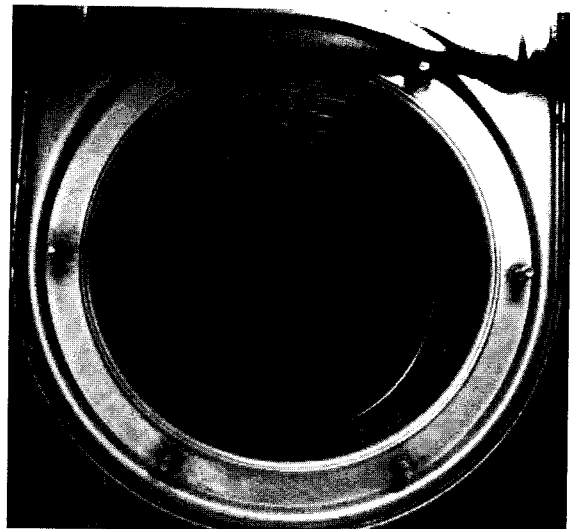

Figure 6 – Heat Exchanger with Burner Removed
7. Remove 6 nuts from the burner assembly with a 10 mm wrench. See Figure 6.